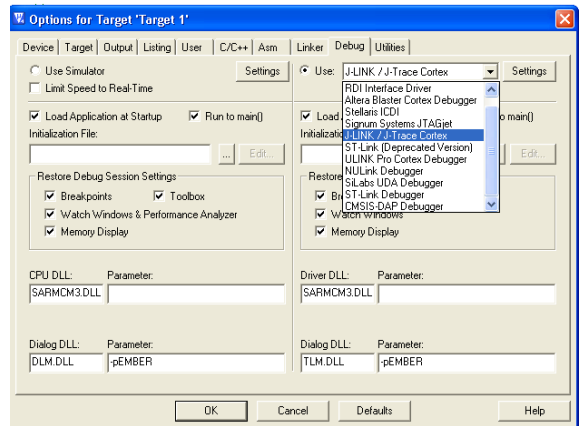
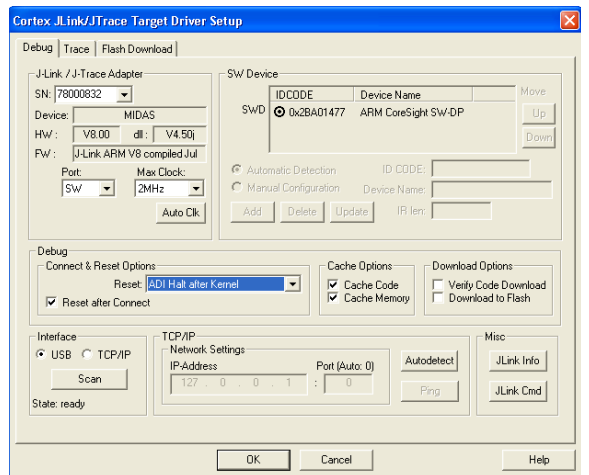

Figure 27. Choose a Debugger
Figure 28. Target Driver Setup
3. Select **Settings** in Figure 27 and then configure as shown in Figure 28.